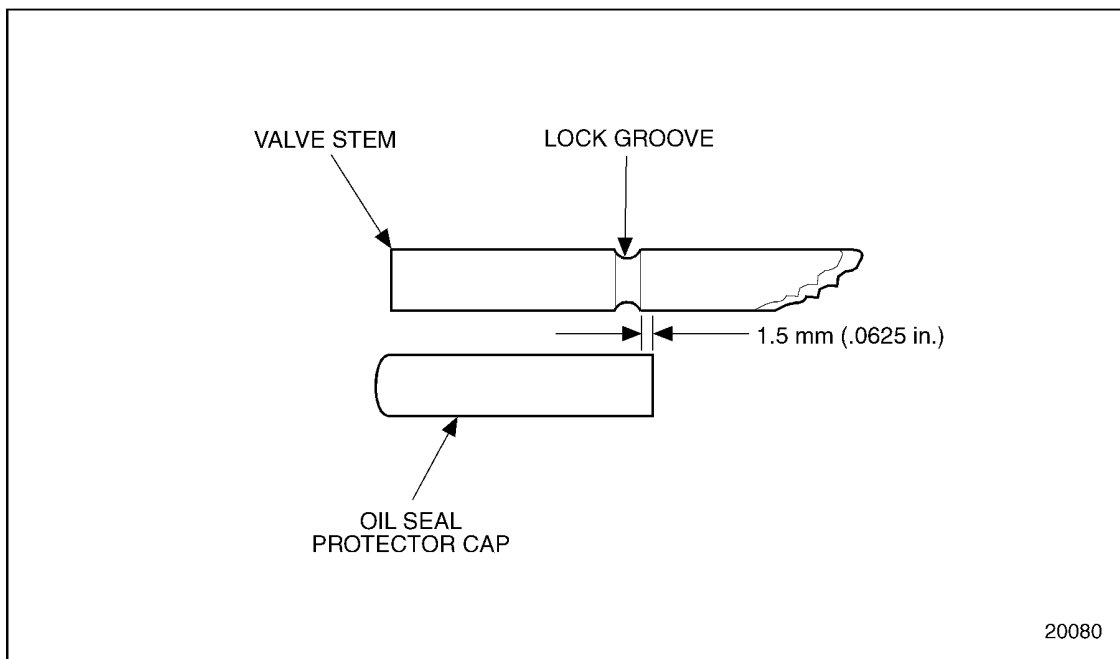

Figure 1-88 Oil Seal Protection Cap Sizing
3. Check the length of the plastic seal protector cap relative to the lock groove on the valve stem. See Figure 1-88.